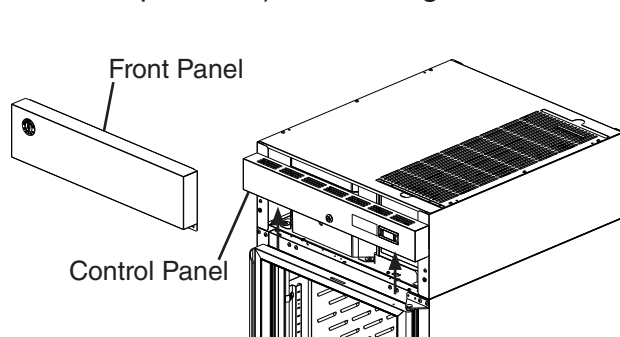

Fig. 31
- 2) Remove the front panel, then being careful not to pull the wires on the control module and door switch(es), remove the control panel. Secure the control panel so that it does not interfere with the hinge bracket and will not fall. See Fig. 31.